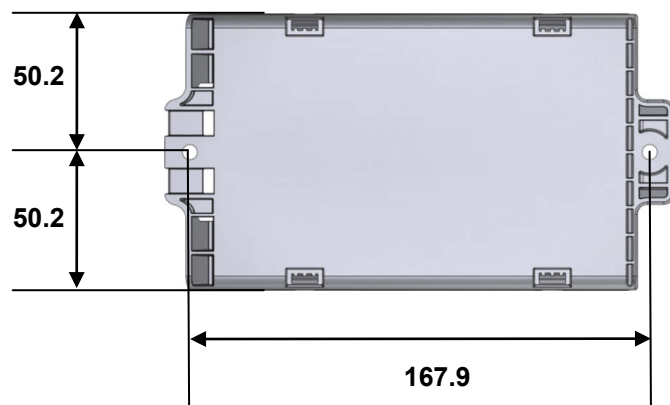
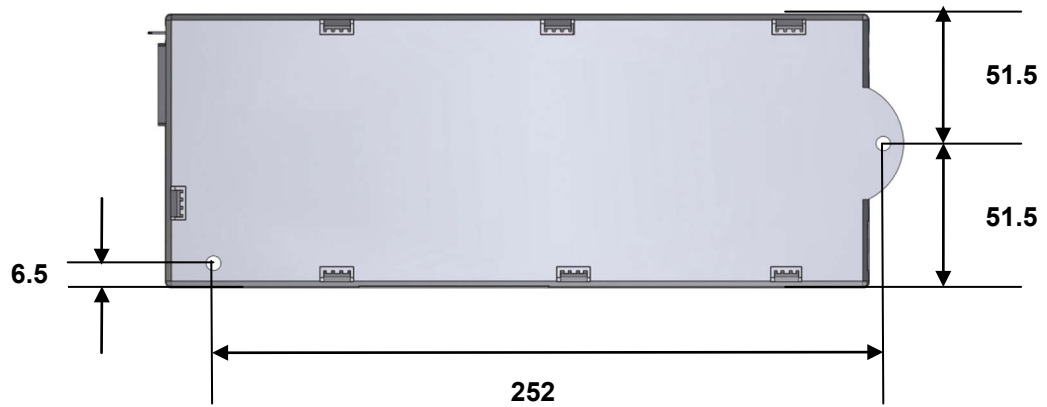

Figure 28 Mounting dimensions: SMART control unit (in mm)
Figure 30 Mounting dimensions: COMPACT control unit (in mm)
- 1 Mark the drill holes. The positions of the holes are shown in Figure 28 (SMART) or Figure 30 (COMPACT).